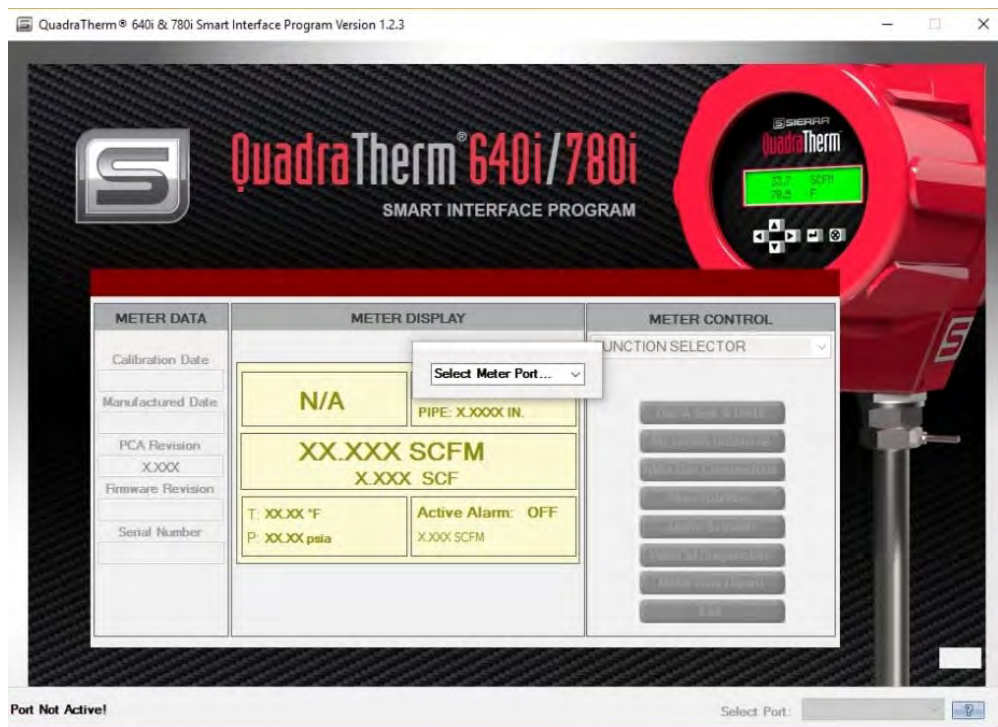

Figure 4. Select Com Meter Port to Use qMix
4. Open the SIP software on your computer and select “COM port” (See Figure 4 below).